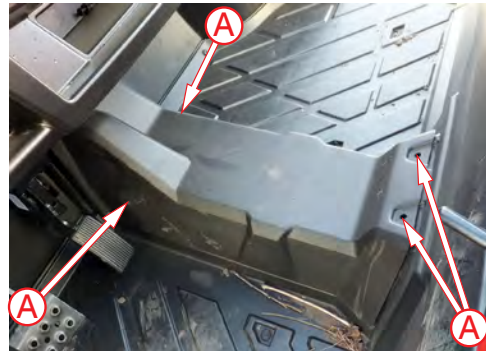
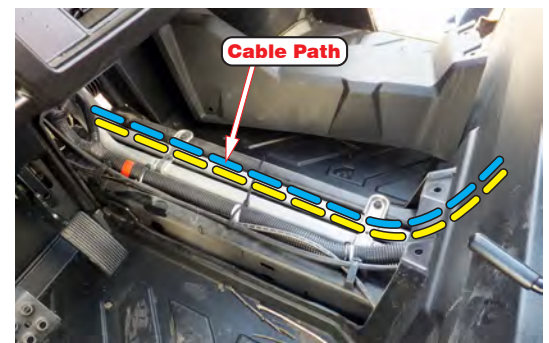

Figure 10.
Figure 11.
12. Remove plastic shroud covering center floor console by taking out the the 4 plastic rivets (A) shown in Figure 10. Route the longest wires (usually **BLUE & YELLOW**) included with your winch from the battery to the contactor location by passing through the opening to the battery compartment and through the front foot well as shown in Figure 11.